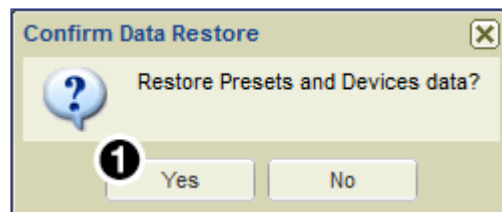

Figure 181. Confirm Data Restore Dialog
2. Click **Yes** (see figure 181, ①).